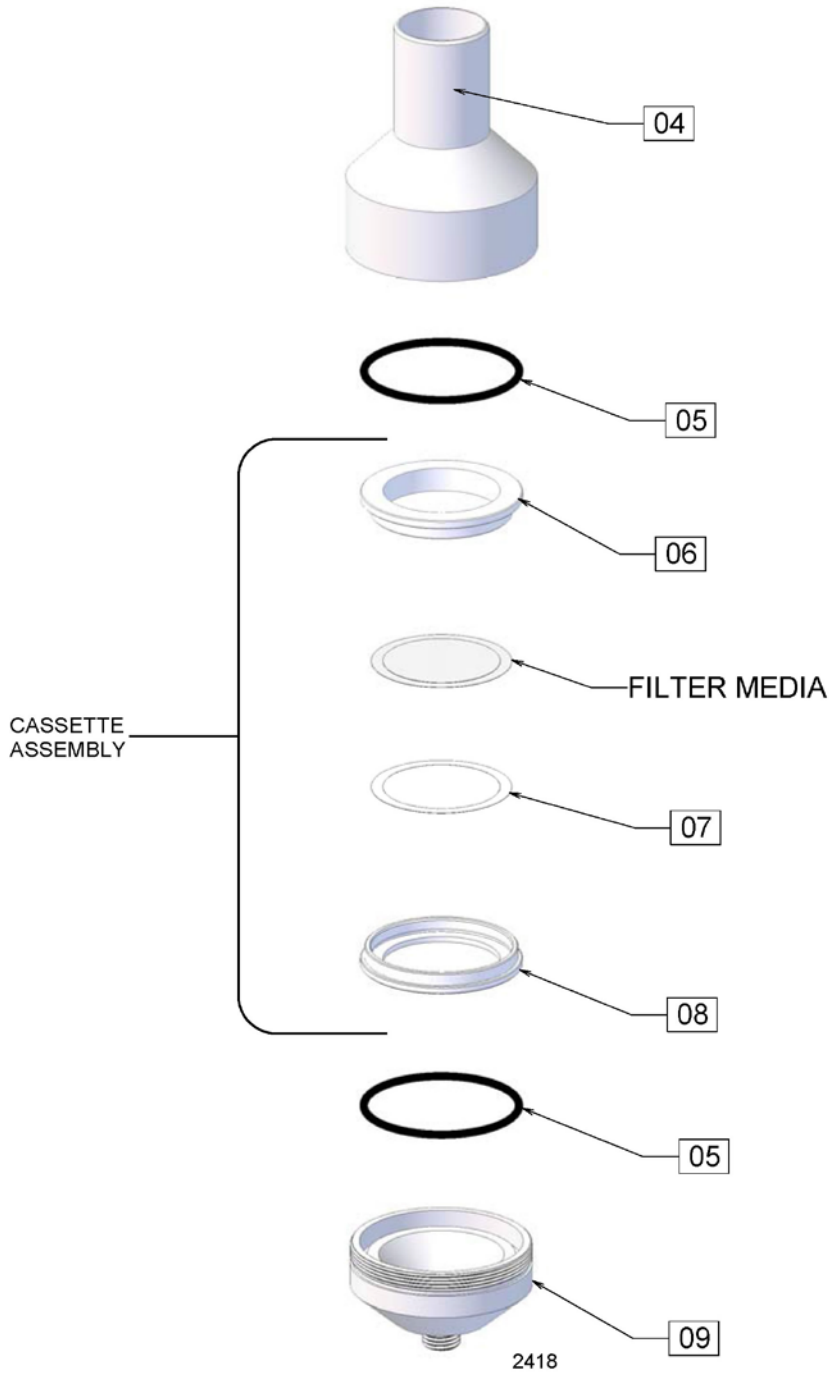

Figure 4. Exploded View of Filter Cassette and Filter Holder
FOR COMPLETE SYSTEM ASSEMBLY PLEASE REFER TO FIGURES 4, 5 AND 6.
FOR COMPLETE SYSTEM ASSEMBLY PLEASE REFER TO FIGURES 4, AND 8.
Referring to Figure 4, the filter media is placed on screen (7) and placed on the inner lip of cassette base (8). Cassette top (6) is then inserted into cassette base when pin of base is aligned with locating hole on cassette top. Holder base (9) and holder top (4) are supplied with O-Rings (5) already installed. Loaded cassette is then inserted into base (9) with the screen side down and holder top (4) is then screwed into base (9) firmly as to insure against leaks.